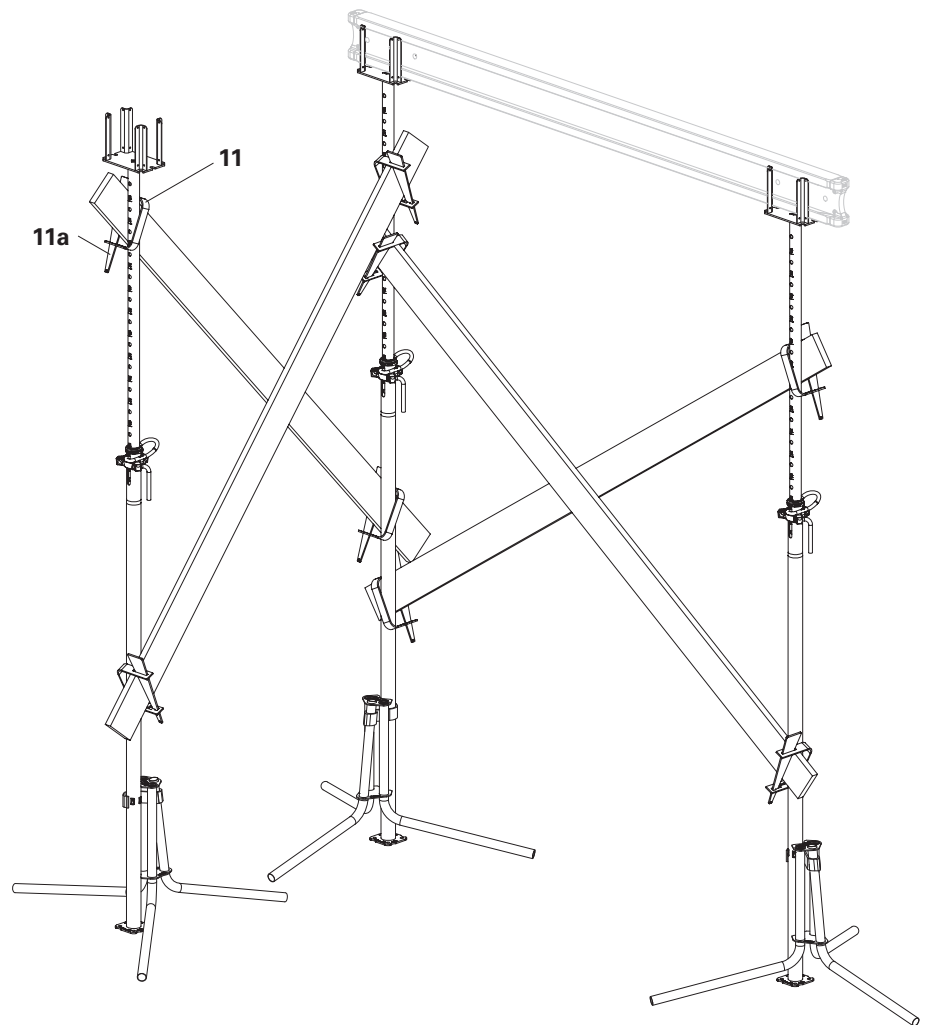

Fig. A3.01
2. Lay brace clamp (11) around the tube of the slab prop.
- (Fig. A3.01)